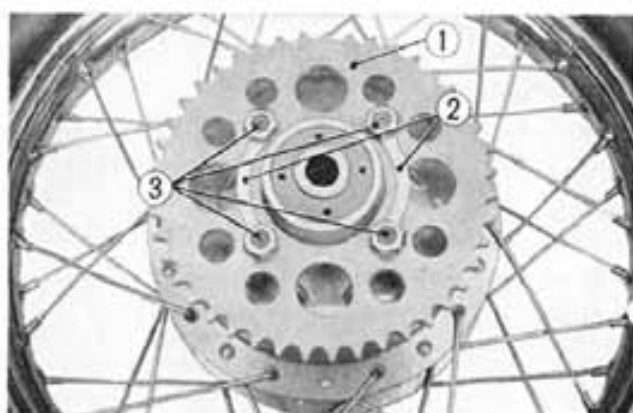

Fig. 13-18 ① Final driven sprocket
8. Unlock the tongued washers, remove the nuts and the driven sprocket can then be removed. (Fig. 13-18)